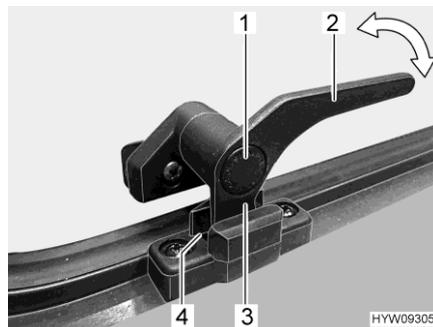

Fig. 62 Catch lever ("continuous ventilation" position)
- "Continuous ventilation" (Fig. 62)
- Press the safety knob (Fig. 62,1) and keep it pressed.
- Turn the catch lever (Fig. 62,3) a quarter turn towards the centre of the window.
- Return the catch lever to its initial position. Move the locking catch (Fig. 62,3) on the catch lever into the recess of the window catch (Fig. 62,4).
- Release the safety knob (Fig. 62,1).